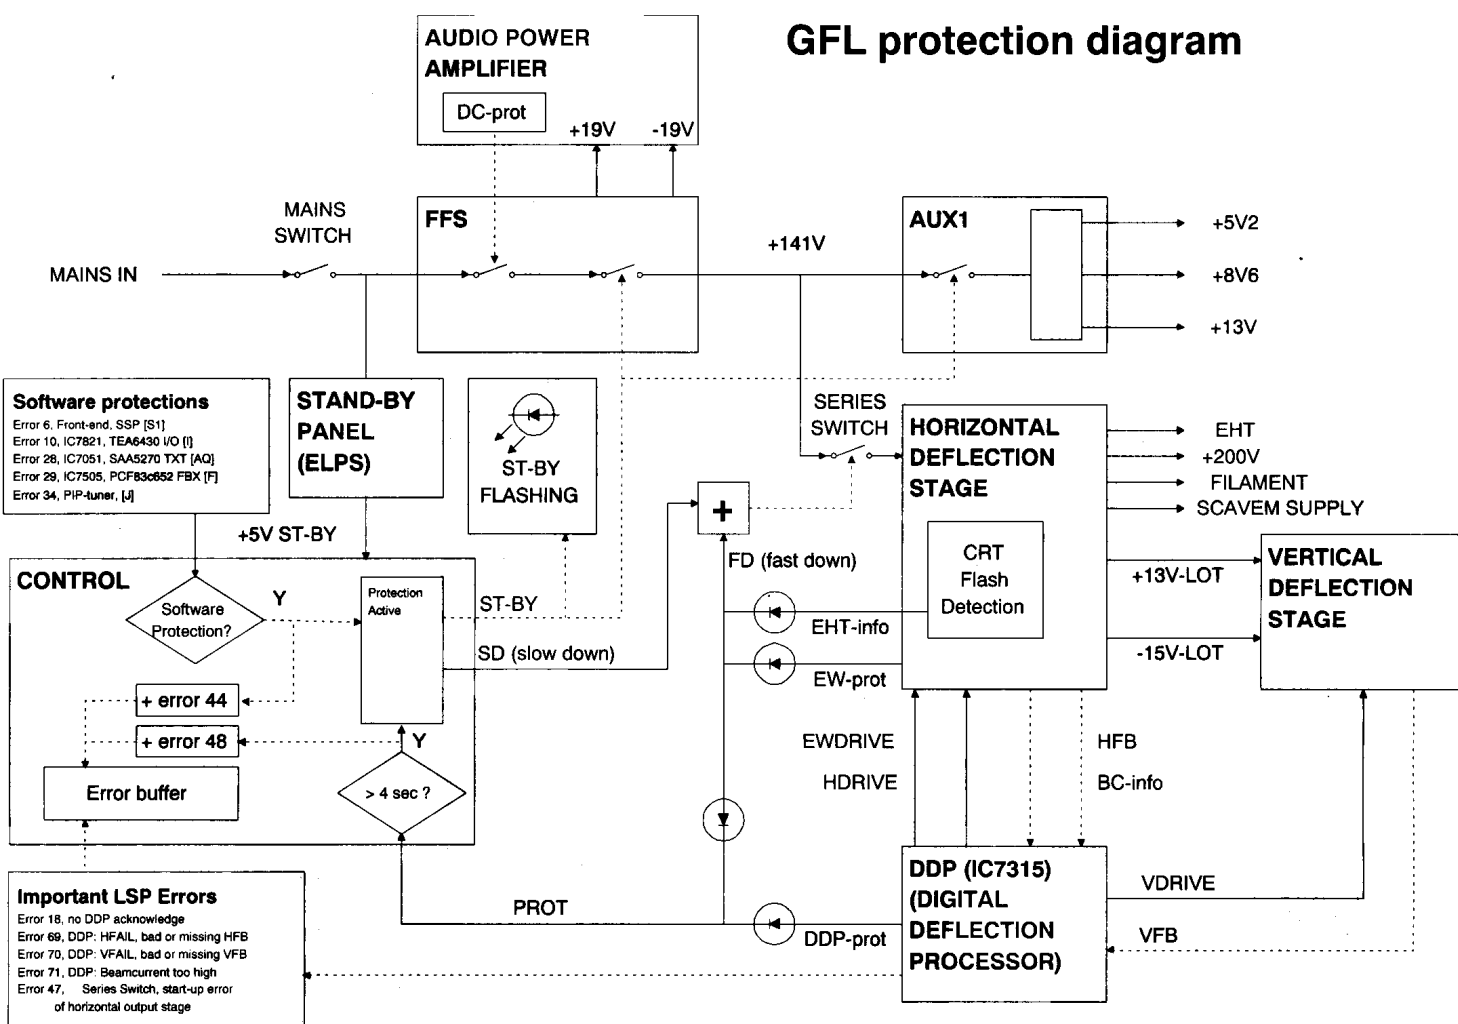

Fig. 8.4
8.14 Protection structure (Fig. 8.4)